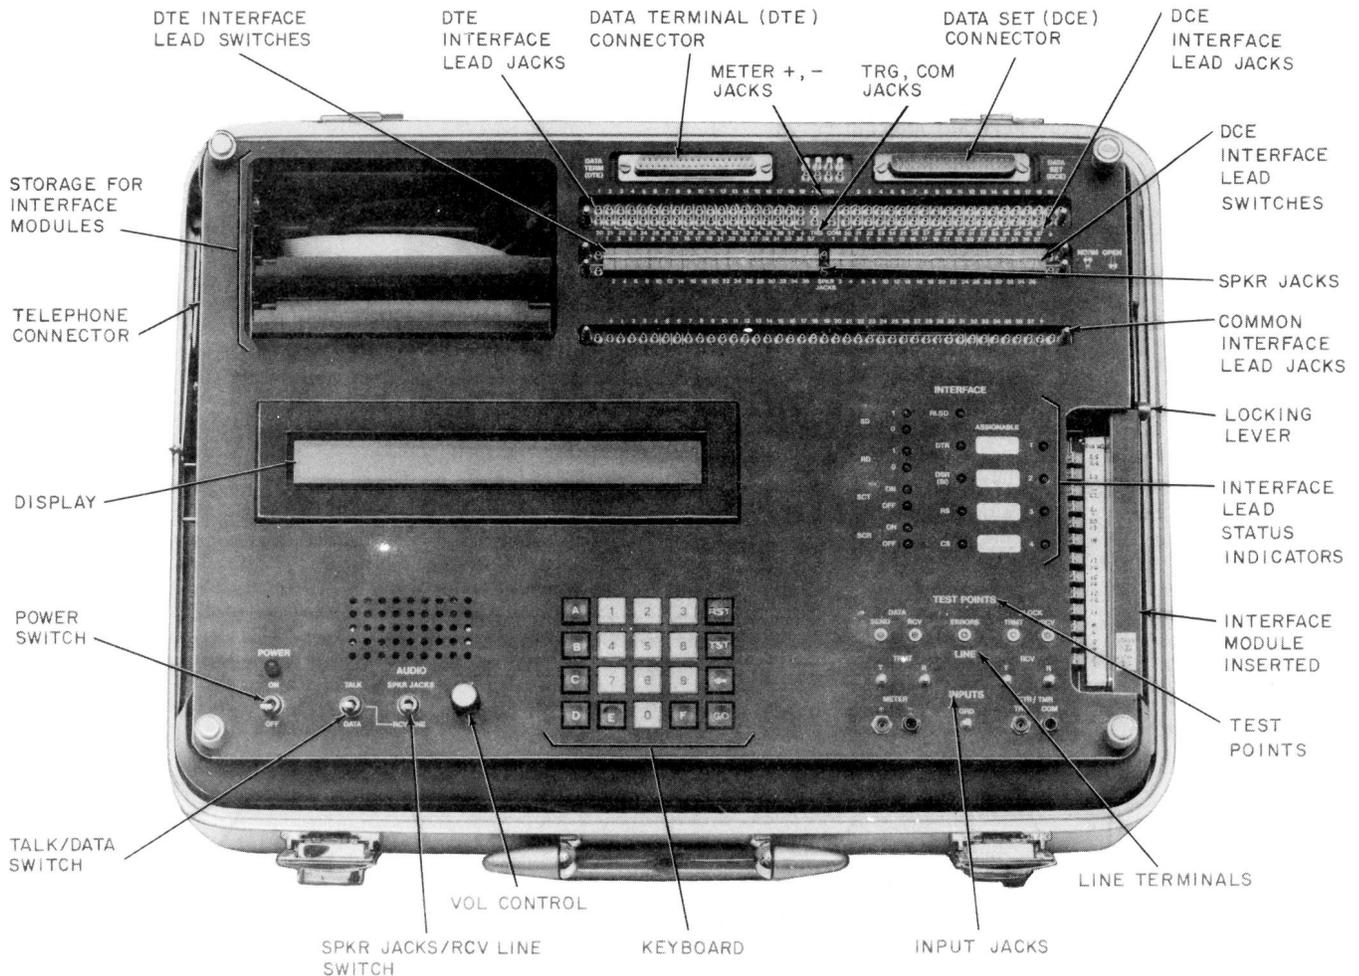

Fig. 1—921A Data Test Set—Front Panel
1.06 The 921A DTS (Fig. 1) is a portable, general purpose data test set that provides the serial testing capabilities of the 914C DTS and is compatible with the 914C DTS for the testing of serial data sets. The 921A DTS also provides additional testing capabilities that are described in Section 107-402-100. Input to the 921A DTS is made through a 20-button keyboard. A 32-character display provides operator prompting and test results.